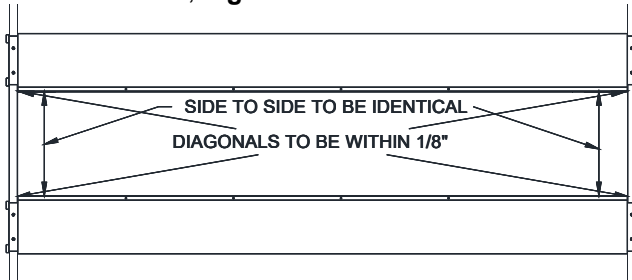

Fig 7 – Final Runway Positioning
- 14) Check the layout of the lift in the bay. (**This is the last opportunity to reposition the lift.**) Adjust the position of the runways so the distance from power side jack rail to idler side jack rail is the same at the front and the rear and the diagonal measurements from the front tip of one rail to rear tip of the opposite rail are within 1/4", **Fig 7**.